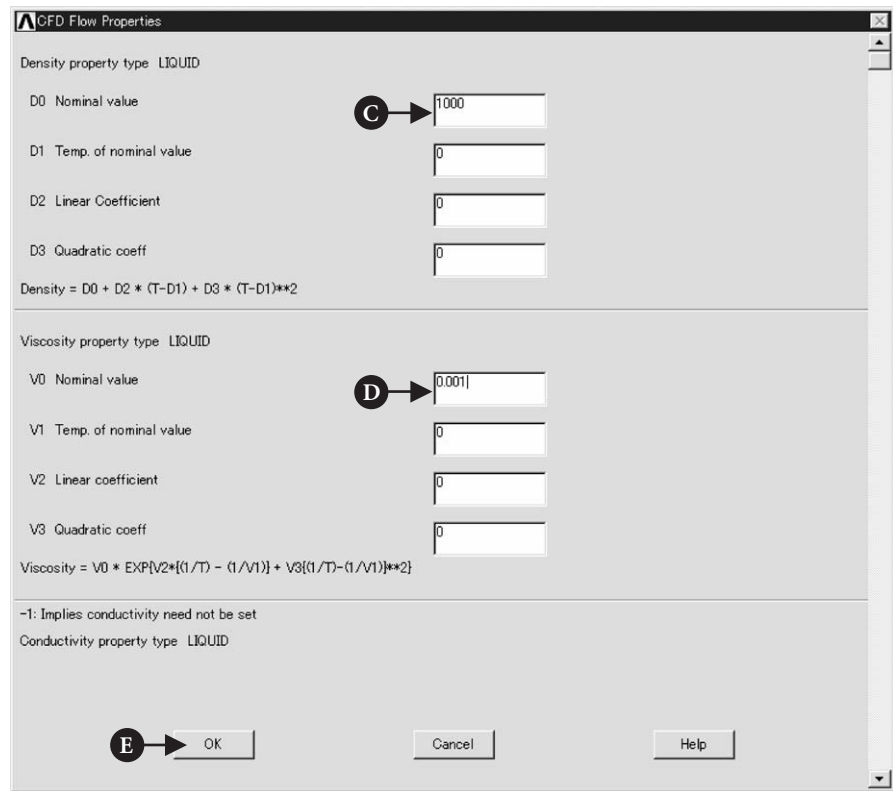

Figure 5.56 Window of CFD Flow Properties.
- (1) Select [A] **Liquid** in **Density**, **Viscosity**, and **Conductivity** boxes and click [B] **OK** button. Then the window **CFD Flow Properties** as shown in Figure 5.56 opens. Input [C] **1000** to **D0** box and [D] **0.001** to **V0** box. Then click [E] **OK** button.